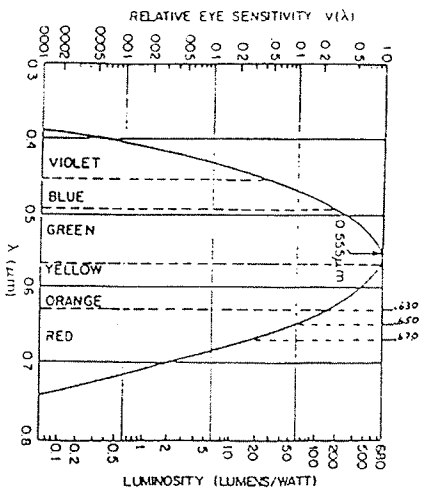

Figure 2 – Photopic response of the human eye
- 4) Sensitivity of the eye varies as a function of wavelength (see Figure 2)